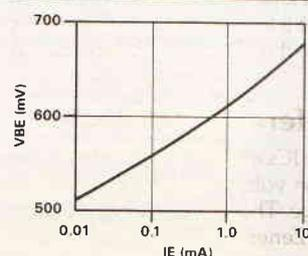
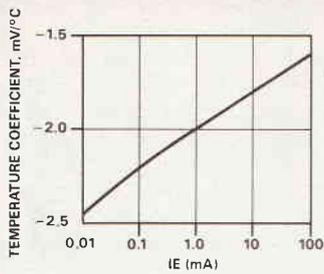

Fig. 6. Typical V_{BE}/I_E transfer characteristics.
Fig. 7. Typical V_{BE} thermal characteristics.
Here, Q_1 is used as a diode that is forward biased at 1 mA via R_3 , and Q_1 's V_{BE} voltage. Figures 6 and 7 show the typical V_{BE}/I_E transfer and V_{BE} temperature coefficient (TC) characteristics of these two transistors. From Figure 6 it can be seen that Q_1 and Q_2 develop V_{BE} values of 600 mV and 550 mV respectively, and that a set reference voltage of 50 mV is thus generated across R_1 . From Figure 7 it can be